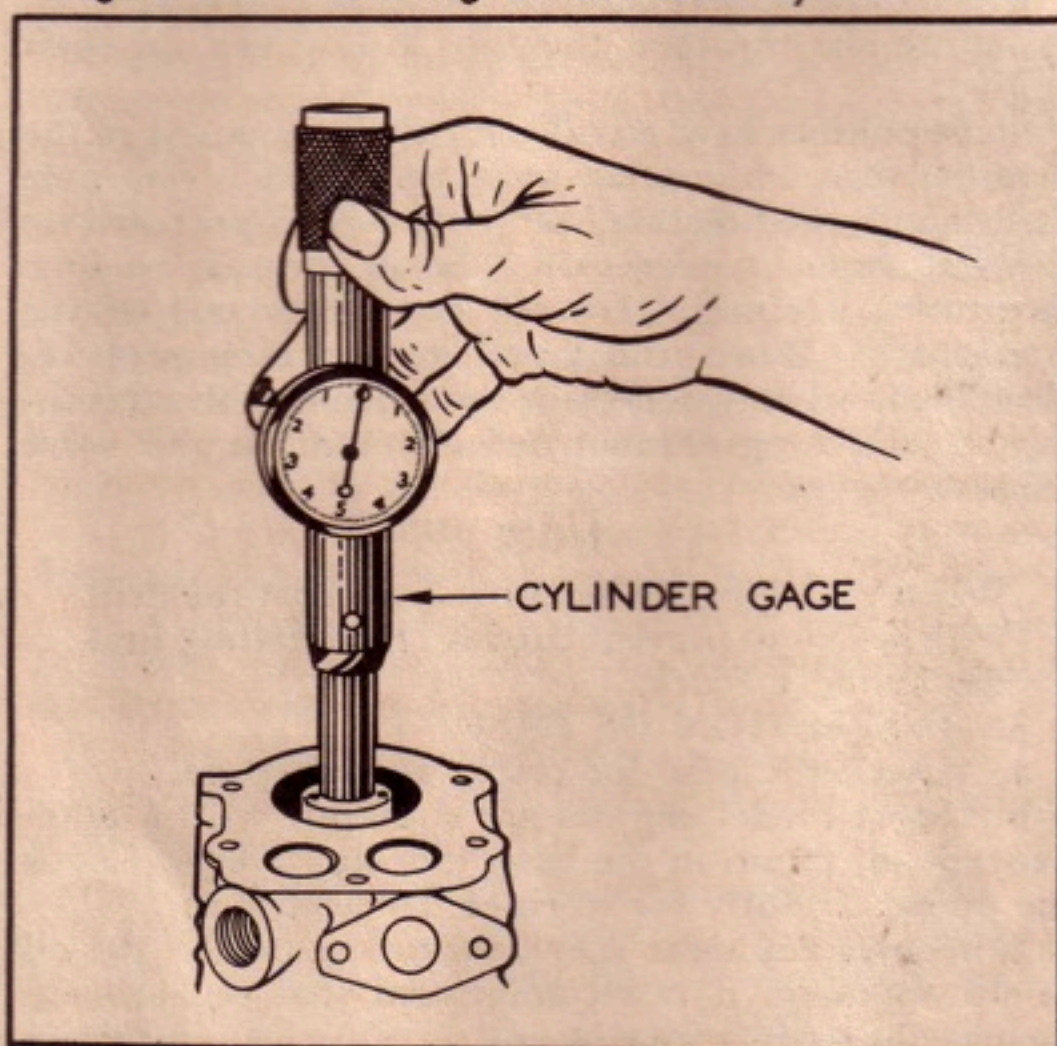

Figure C-5. Measuring Cylinder Bore with Dial Gage
a. Using a dial gage, measure the cylinder bore for wear. (See figure C-5.) If the cylinder block is tapered and out-of-round more than .006 inch, the cylinder should be rebored and an oversize piston installed. Refer to paragraph VI, 1, for reboring instructions.